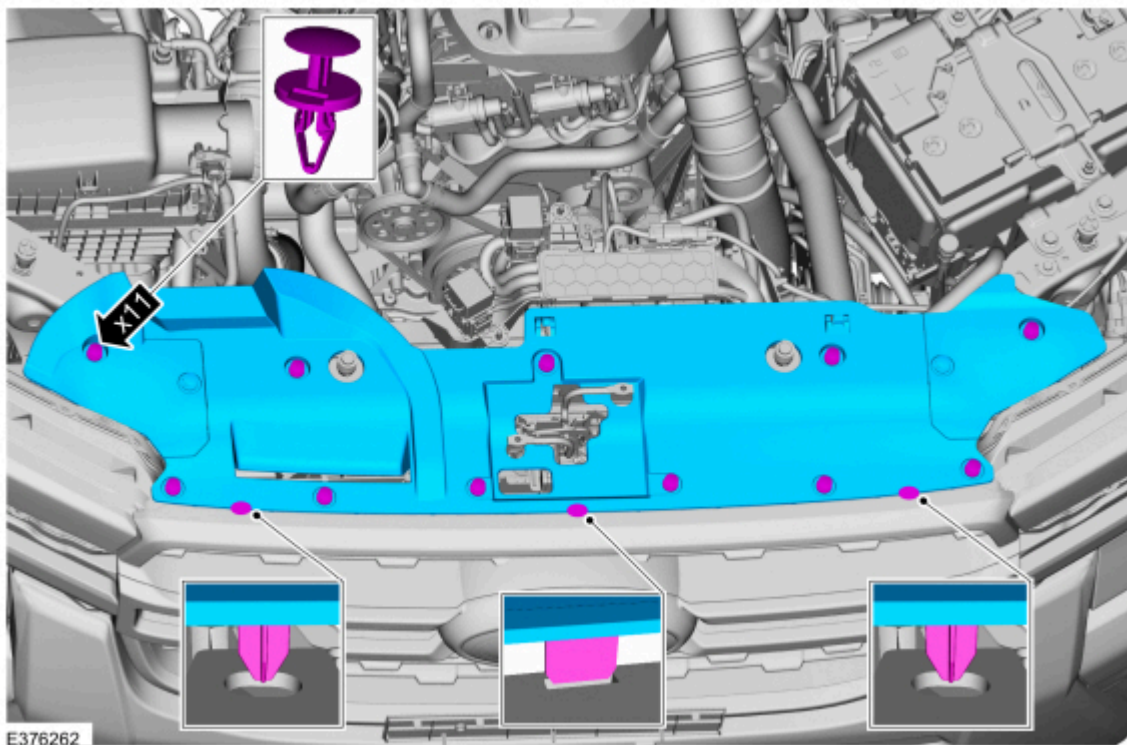

Figure 2
3. Remove the push pins and the radiator sight shield. (Figure 2)